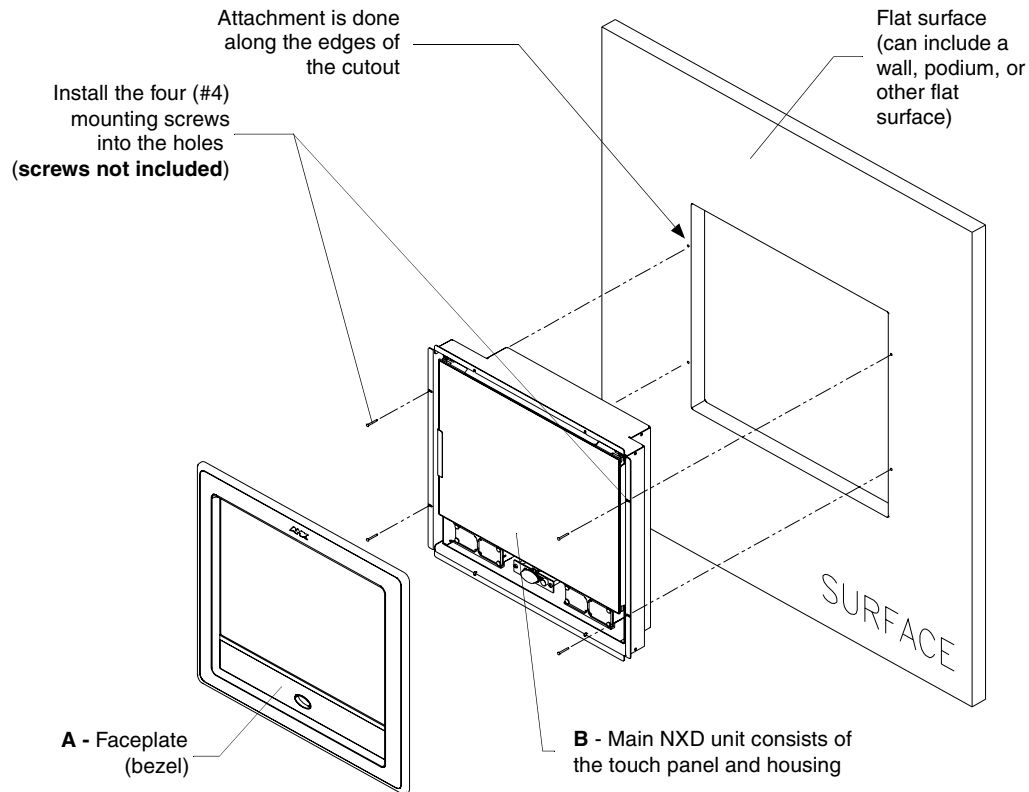

FIG. 45 Wall Mount panel installation configuration for flat/solid surfaces
3. Remove the magnetic faceplate/bezel (**A** in FIG. 45) from the main NXD unit (**B** in FIG. 45) by gripping the faceplate and pulling with gentle outward force.
10. Reinstall the magnetic faceplate (**A** in FIG. 45) back onto the main NXD unit (**B** in FIG. 45). *Make sure to align the Microphone, Light, and PIR Motion sensor locations to their respective openings on the front bezel/faceplate.*